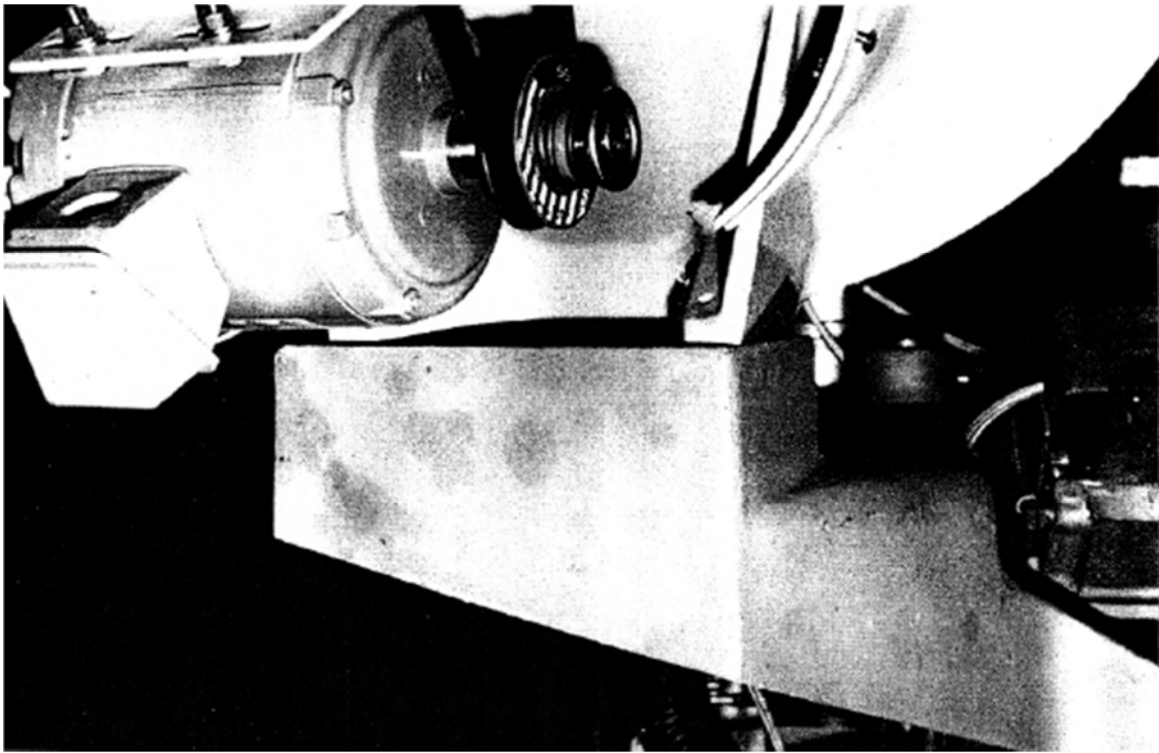
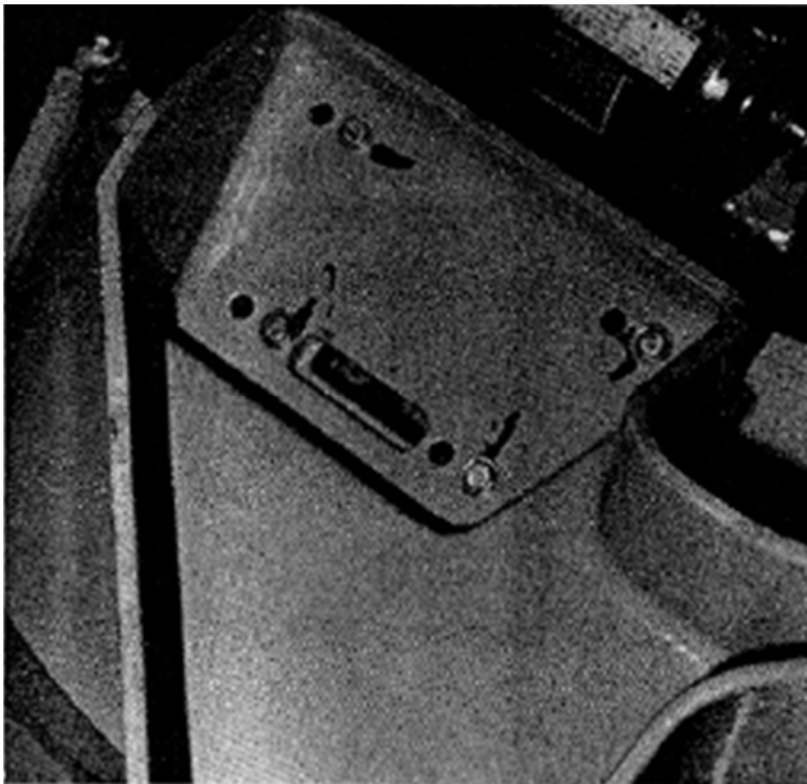

Figure 2: Mounting the Hopper
Figure 3: Fastening the Hopper to the Support
1. Set the hopper for either standard model machine or gallon model. The hole is stamped "G" for gallon. It is very important to have the hopper in the proper hole location. Mount the hopper onto the capper. The hopper support should be mounted onto the hopper post (*Figure 2*). The hopper assembly must be mounted in position on top of the hopper support, aligning the four holes (*Figure 2*). This is bolted together with four #3/8-16x1-1/2 hex head cap screws (*Figure 3*).
3. Attach any turnover at the top of the hopper discharge plate. Secure the bottom end of the turnover to the bottom connecting plate with pin. Position under the capper cap chute and secure with "C" clamps. Remove turnover and try remaining turnovers to insure correct alignment. Transfer the two holes in the cap chute plate and secure with (2) #10-24x1/2 flat head screws.